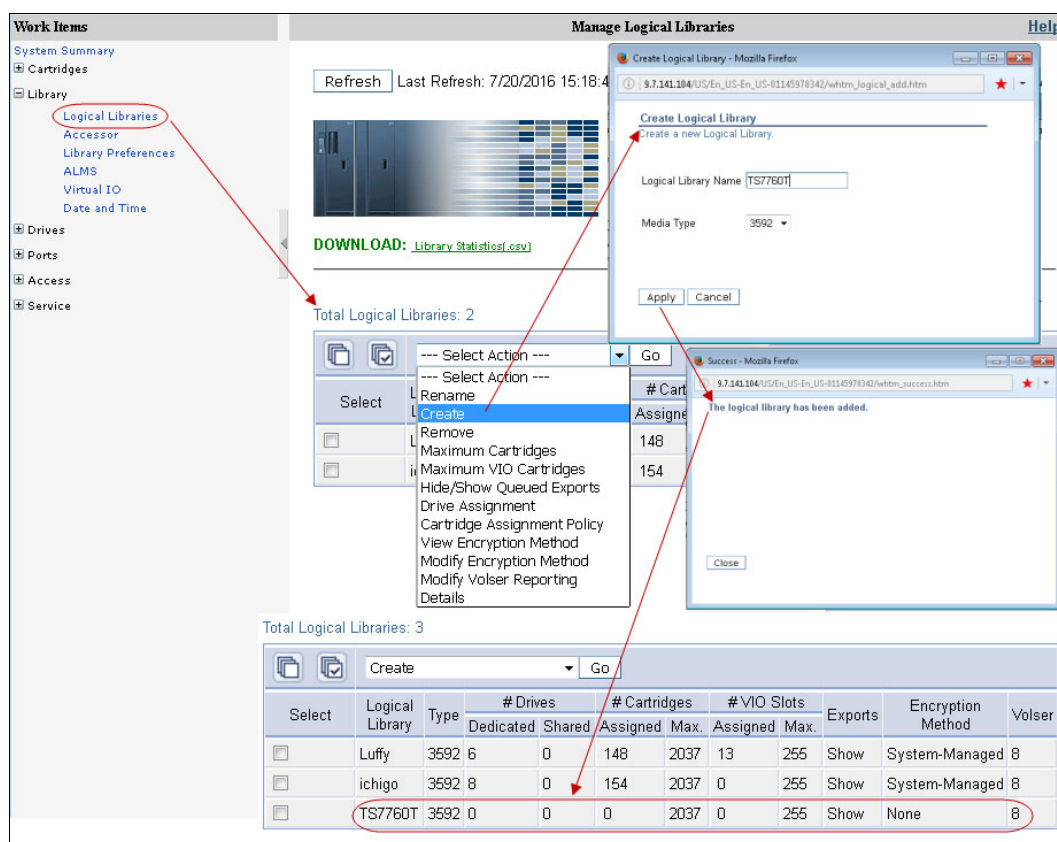

Figure 11-7 Creating a Logical Library with the TS3500 tape library
- After the logical library is created, you can display its characteristics by selecting **Library** → **Logical Libraries** under work items on the left side of the window. Figure 11-7 shows a summary of the windows in the Create logical library sequence.